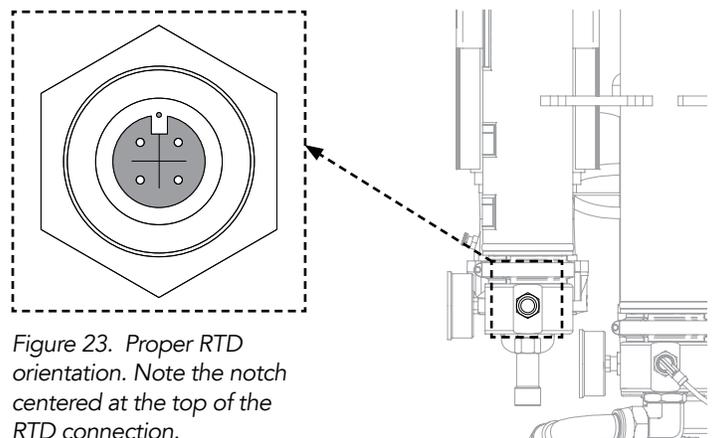

Figure 23. Proper RTD orientation. Note the notch centered at the top of the RTD connection.
5. Screw replacement RTD to tank. When tightening, ensure plug is aligned with notch toward top of tank. See *Fig. 23*.